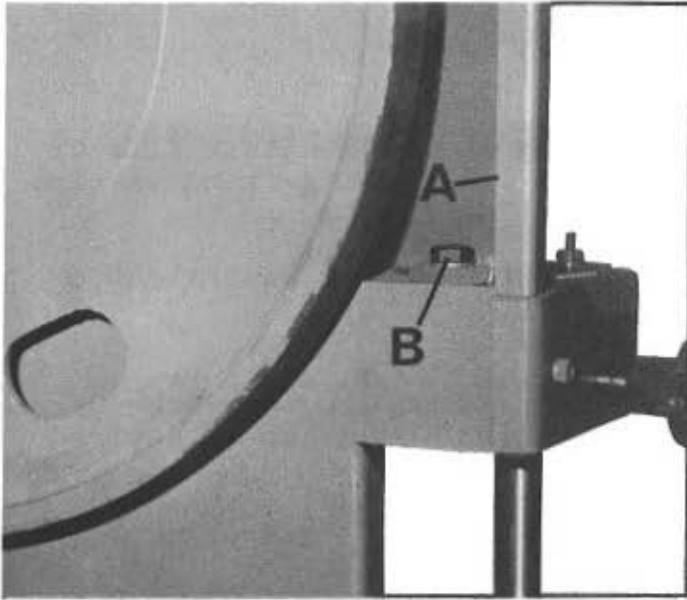

FIG 1
1. Secure top cover "A", FIG.1, to top of main frame by 3 - 12mm bolts, C5 machine. (4 - 12mm bolts, C6 machine).